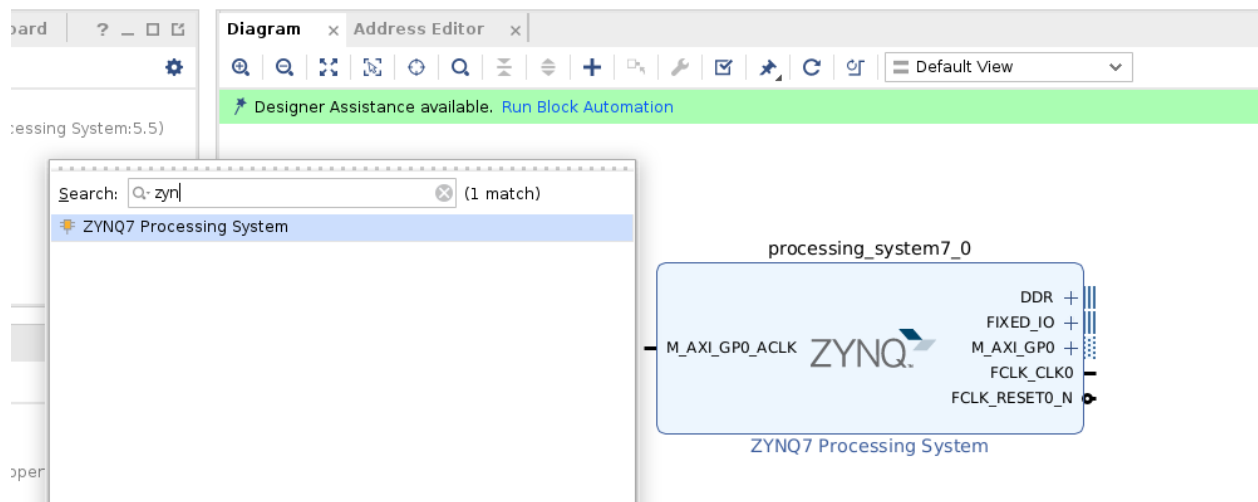

Figure 10: The IP library menu and a block diagram with only the processing system added.
type “zynq” and drag and drop the “ZYNQ7 Processing System” onto the block diagram. If done correctly, the block diagram will look like Figure 10.
7. Now, click the “Run Block Automation” button seen in Figure 10 and click “OK” on the screen that pops up. **It is absolutely imperative that you do this. Otherwise, the**